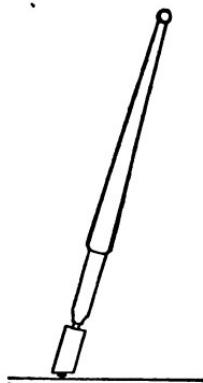

FIG. 65.
**Glazier's diamond.**—A glazier's diamond consists of a small diamond set firmly in gold at the end of a handle (Fig. 65); the edge in which the diamond is set runs obliquely across the lower end of the handle. The diamond is the hardest of all known substances; and when drawn along the surface of glass with moderate pressure, it will leave a clean cut along which the glass will easily break. The cheapest glazier's diamond will cost 10s. new: but a second-hand one may be bought for 5s. or 6s.
fixed shall be always parallel to the surface of the glass. Fig. 65 shows the proper position of the diamond when cutting.